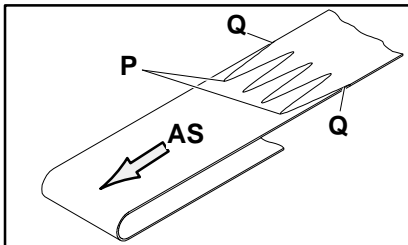

Figure 9: Replacement Belt Orientation Detail
Orient the replacement belt so the belt splice leading fingers (P of Figure 9) point in the direction of belt travel (AS) and that the outside fingers (Q) are positioned as shown.